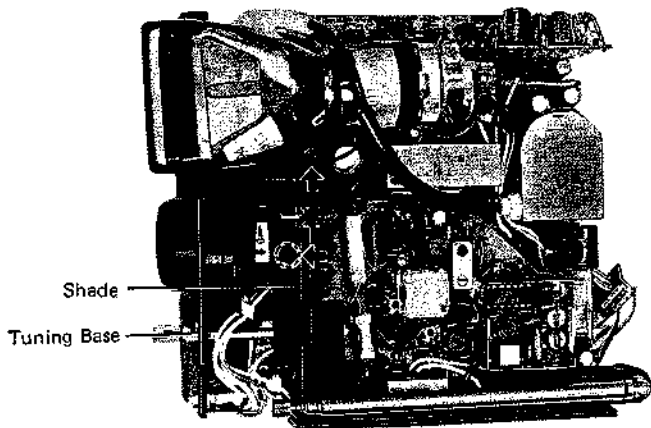

Fig. 5
2. Unscrew 2 screws indicated in Fig. 5 (one between the 2 screws is situated under the shade sheet.)